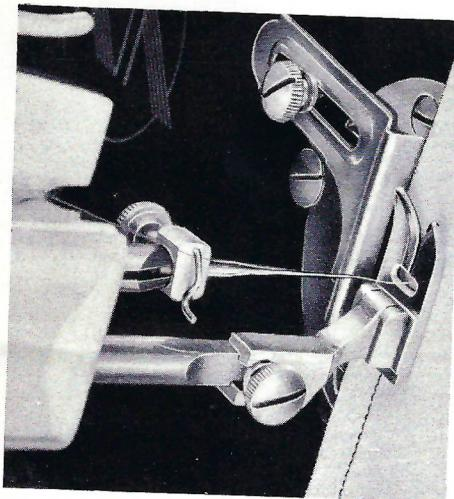

Fig. 45
- Attach cloth guide to bed of machine by means of a thumb screw which fits into one of the screw holes in the bed of the machine (Fig. 45).